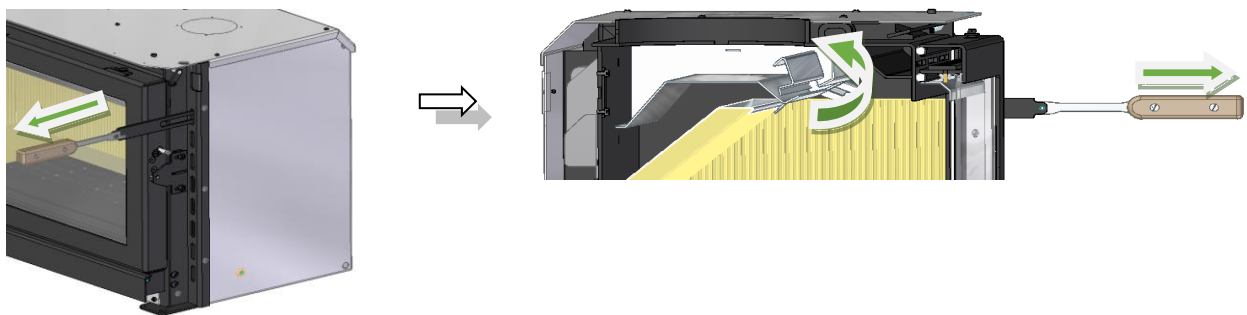
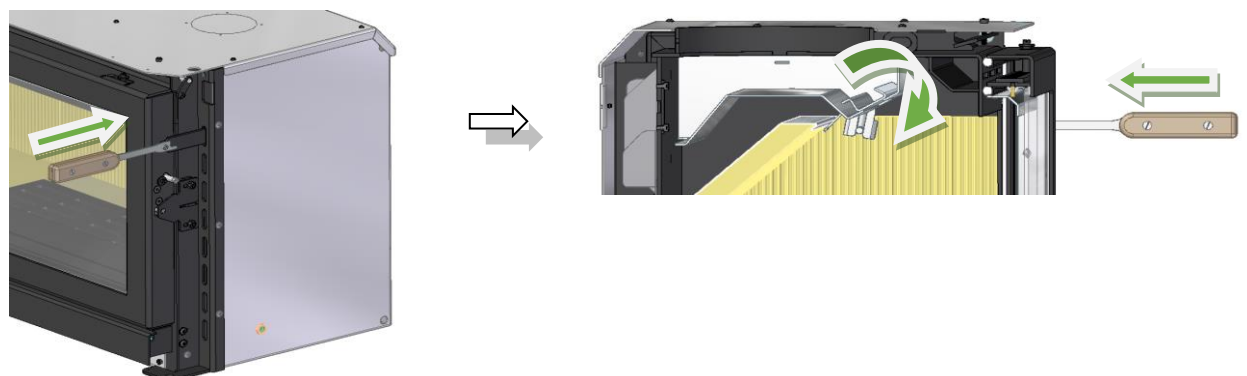

Figure 30 – Opening of the smoke flap
Figure 31 – Smoke flap closure
It controls the passage/exit of smoke when opening the door, that is, when the appliance is in operation and you want to refill it with more firewood, before opening the door, pull the handle towards you. This will allow a greater and easier passage of smoke through the chimney neck, avoiding the return of smoke from the unit into the surrounding room, see Figure 30 and Figure 31.
4. Open the primary combustion air intake control, leave the door ajar to make lighting quicker and open the smoke flap, see Figure 30;